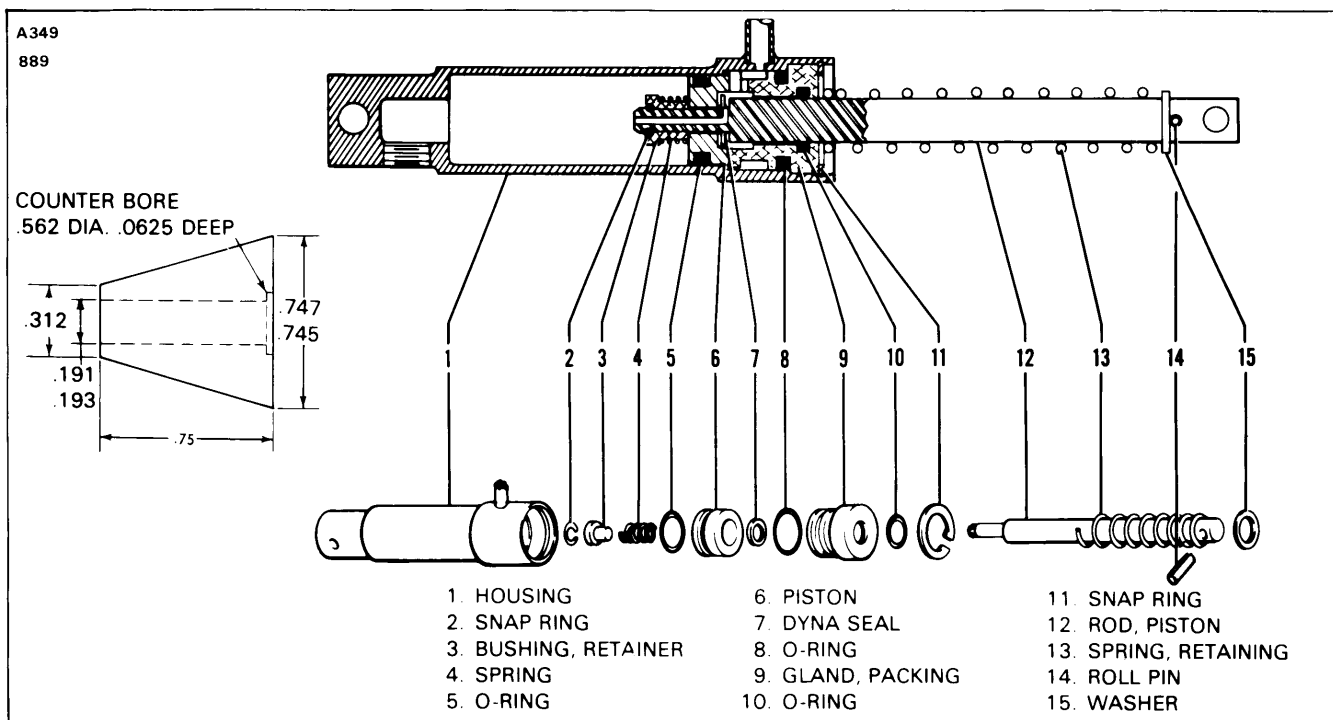

Figure 7A-20. Brake Master Cylinder (Hand/Parking Brake)
- a. Install new "O" rings on the inside and outside of the packing gland (9) and on the outside of the piston (6). (When installing teflon "O" ring (5) on piston, it is recommended that it be installed with the use of a cone placed against the piston. The cone may be constructed of plastic or metal with dimensions shown in Figure 7A-20.)
- b. To assemble the piston rod assembly, install on the rod (12), in order, the return spring retainer washer (15), return spring (13), packing gland (9) with "O" rings, seal (10), piston (6) with "O" ring, spring (4) and retainer bushing (3). Secure these pieces with the small ring (2) on the end of the rod.
7A-66. INSTALLATION OF BRAKE MASTER CYLINDER. (Refer to Figure 7A-19.)